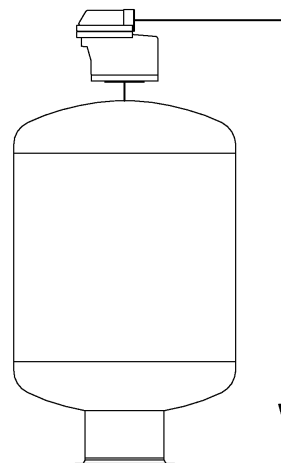

Fig. 3
- Fig. 3: Entlüftung eines Filterkessels.
- Fig. 3: Venting of a filter boiler